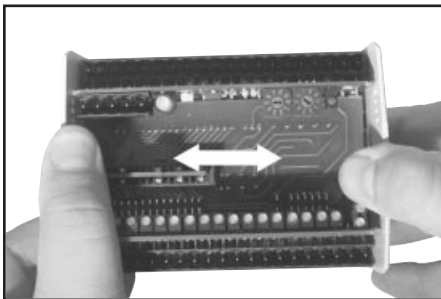

Figure 12. Gently push the sides of the module outward
- 3) Gently push the sides of the module housing outward (at the top corners) to dislodge the four locking tabs (on the two circuit boards) from the slots on the sides of the housing (Figure 12). Pull the assembly of the three circuit boards straight out of the module housing.